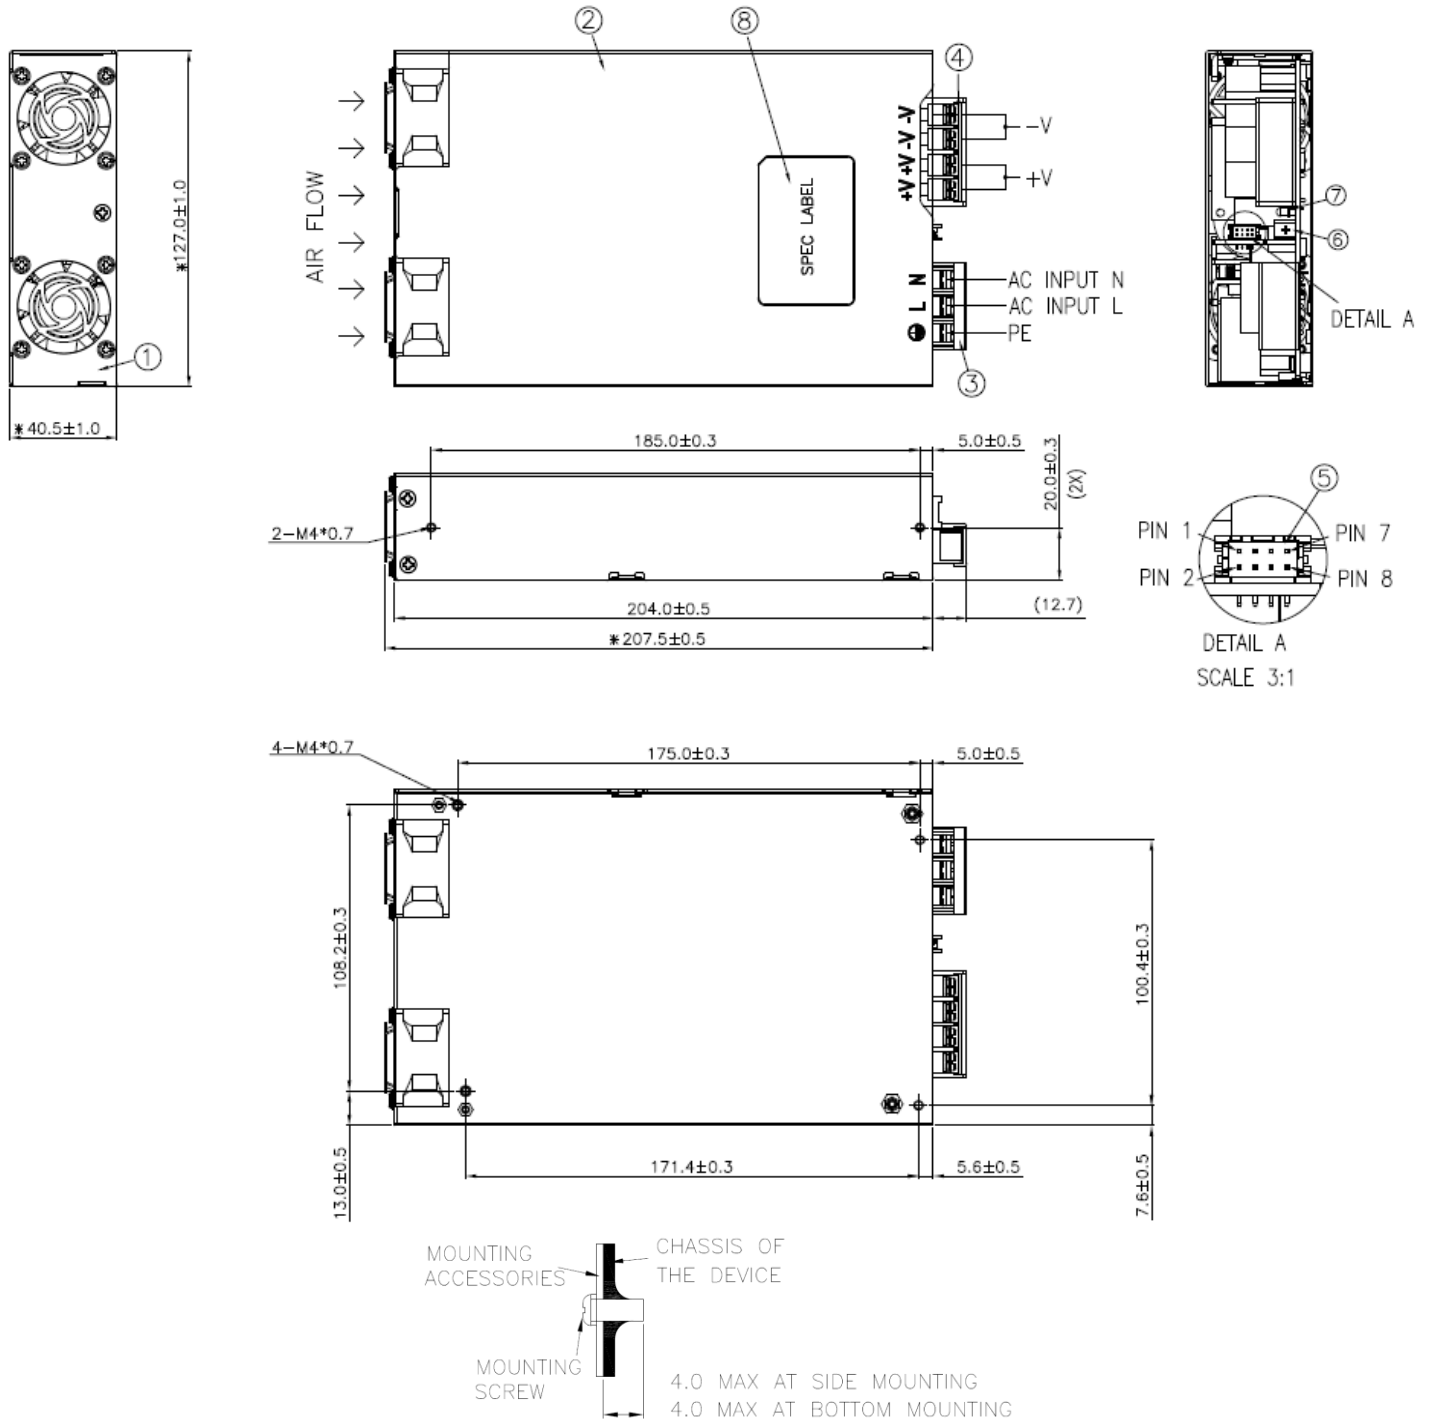

Fig. 4
1. Bottom mounting, maximum penetration 4.0 mm from outside face of chassis. (refer to Fig.4)
2. Side mounting, maximum penetration 4.0 mm from outside face of chassis. (refer to Fig.4)